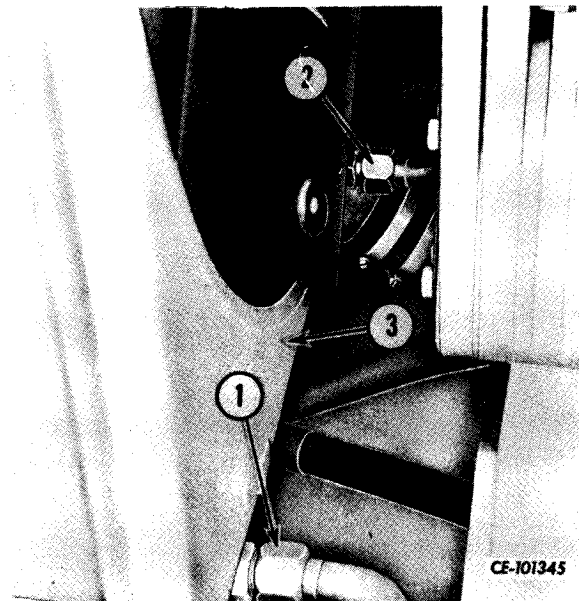

Figure 2-46
Remove plugs and quickly connect and tighten hydraulic lines (1, 2, Fig. 2-46) to bottom of radiator (3).